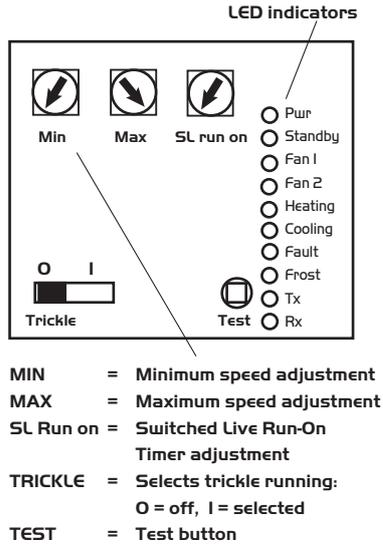

Fig. 9 Commissioning panel details.
**Connections** (see fig 9).
**Switch Live (SL) terminal** - A signal of 100-230V a.c. will activate the fan. Note that a signal from an isolating transformer will produce an unpredictable result and is not recommended.